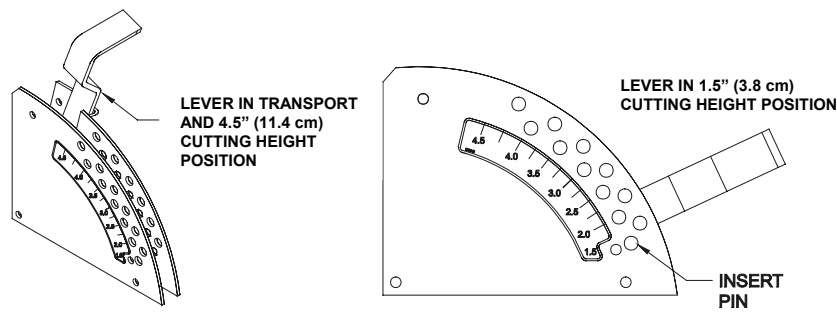
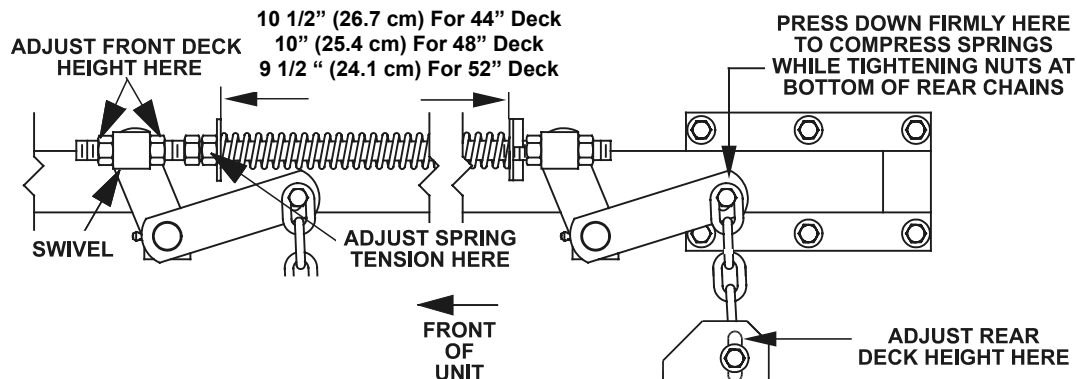

FIGURE 5
FIGURE 7
- c) Raise the deck lever to the transport position (also the 4.5" (11.4 cm) cutting height position). See Figure 5.
- c) Check tire pressure of all four (4) tires. If needed, adjust to 13 psi (90 kPa).
- e) Raise the deck to the 4.5" (11.4 cm) height position and take as much force as possible off of the two large deck lift springs by loosening the nuts at the front of each spring. See Figure 7.
- g) Loosen the two (2) bottom chain bolts in slots at the rear of the cutting deck. Loosen four (4) nuts which secure front swivels (two per side), until front chains are loose and front of deck is supported by the 1-1/8" (2.9 cm) block. Do not loosen front chain hardware.
- h) When hardware is loosened, remaining tension in the large support springs will tend to rotate the deck lift handle up, out of the 1 1/2" (3.8 cm) position. Press down on the rear deck support arm (as shown in Figure 7) to firmly return the deck lift handle to the 1 1/2" (3.8 cm) position. **DO NOT** push on deck lift handle. While continuing to press down, take the slack out of the rear chains and tighten hardware at the bottom of the rear chains. Downward pressure may now be released.
- k) Raise deck lift lever to the 4.5" (11.4 cm) cutting height position (also transport position, See Figure 5. Adjust spring compression until proper distance is obtained between the two washers (See Figure 7) by turning the nut at the front of each spring. Lock nuts in position with jam nuts.